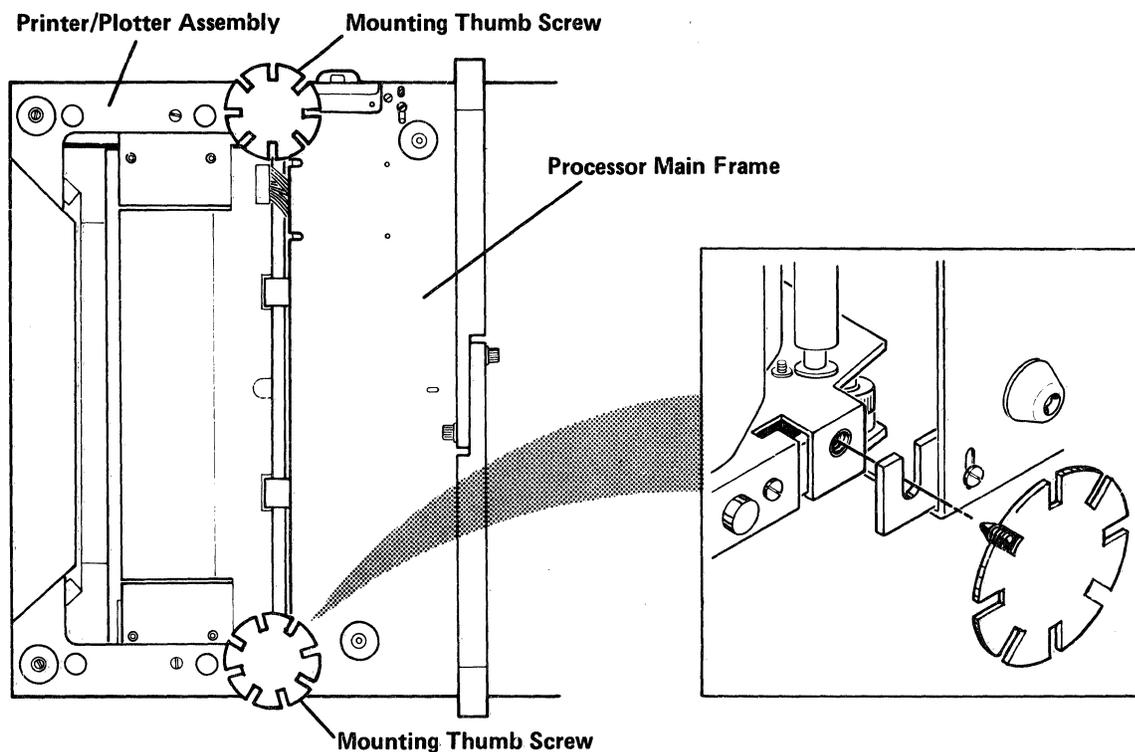

Figure 4-27. Location of Printer/Plotter Thumbwheel Mounting Screws.
12. Remove the two (2) printer/plotter thumbwheel mounting screws located on the underside of the unit. Refer to Figure 4-27 for the location of these screws; DO NOT turn the processor on its side!
10. Replace the two (2) screws that secure the printer/plotter to the processor unit (See Figure 4-27).